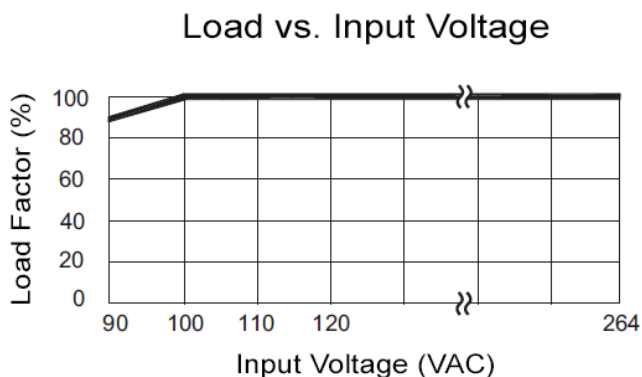

Figure 3. Load vs Input Voltage Derating Curve
**Figure 3** shows the output load versus voltage for the PWRPAK-16A-5V.